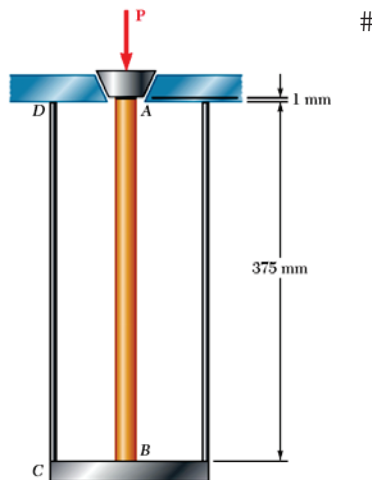

Figure 1/ Rajah 1
- (4). (a). The brass tube AB ($E = 105 \text{ GPa}$) (Figure 1) has a cross-sectional area of 140 mm^2 and is fitted with a plug at A . The tube is attached at B to a rigid plate that is itself attached at C to the bottom of an aluminium cylinder ($E = 72 \text{ GPa}$) with a cross-sectional area of 250 mm^2 . The cylinder is then hung from a support at D . In order to close the cylinder, the plug must move down through 1 mm . Determine the force P that must be applied to the cylinder.